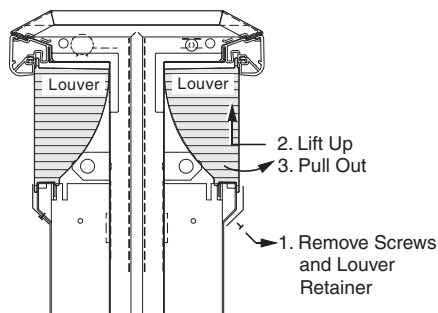

Figure 3 — Remove Louvers
2. Remove retainers and discharge air louvers as shown in Figure 3. They will be reinstalled once modification is complete.